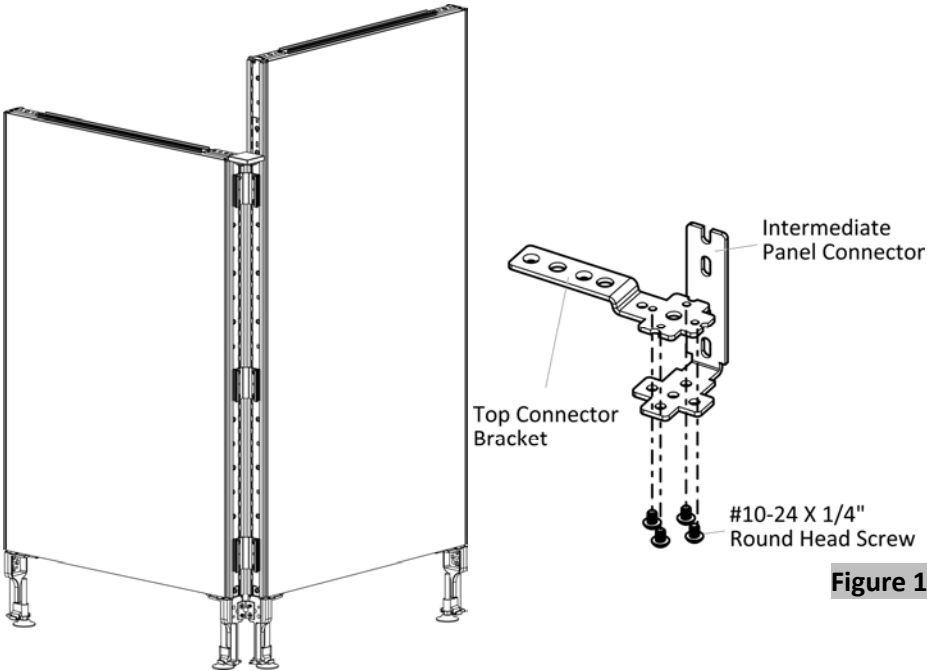

Figure 1
1. Securely fasten intermediate panel connector to top connector bracket with four #10-24 X 1/4" Round Head Screws, (Figure 1).